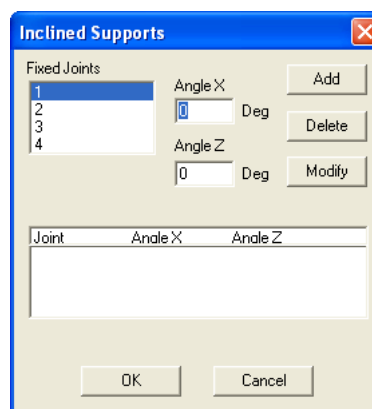

Figure 3-21 Inclined Supports dialog box
- From the **Process** menu, select **Inclined Supports**. The dialog box of Figure 3-21 appears. Some options may not be available, depending on the structure type selected.